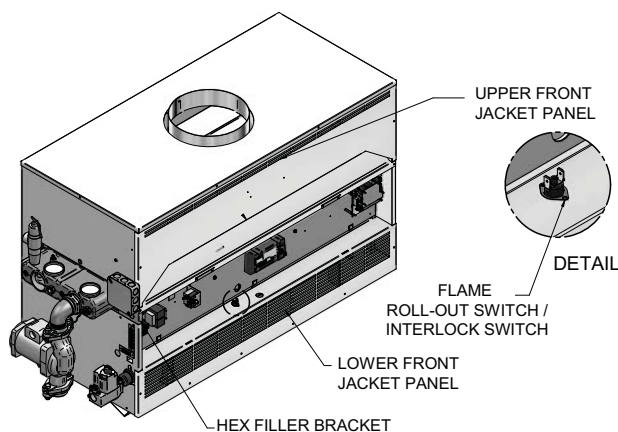

Figure 8-2 Outer Air Deflector and HEX Filler Bracket
- d. Remove the outer air deflector (FIG. 8-2).
- g. Disconnect the wiring from the flame rollout/interlock switch, see FIG. 8-2, page 59.
- r. Remove the heat exchanger (HEX) filler bracket (FIG. 8-2).